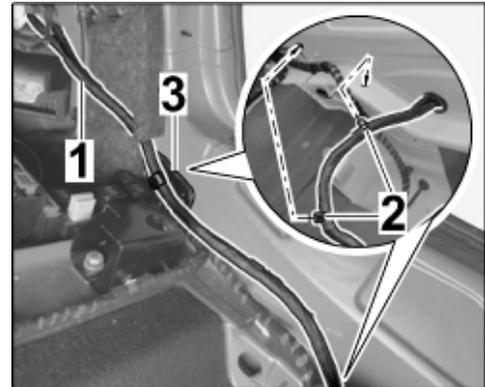

Figure 20
3.4.3 Route wire harness for trailer hitch (⇒ *Figure 20 -1-*) to the trailer hitch control unit.
Install cable clip (⇒ *Figure 20 -2-*) on back panel.
Install wire harness for trailer hitch in the bracket (⇒ *Figure 20 -3-*).